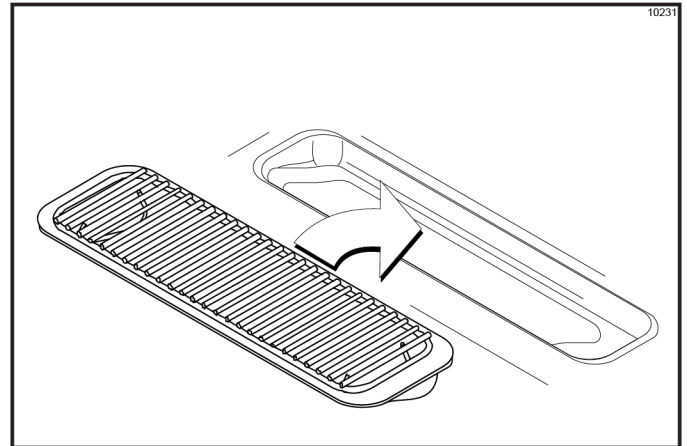

Figure 6-16
9. Install the front drip tray and splash shield under the door spout. (See Figure 6-16.)